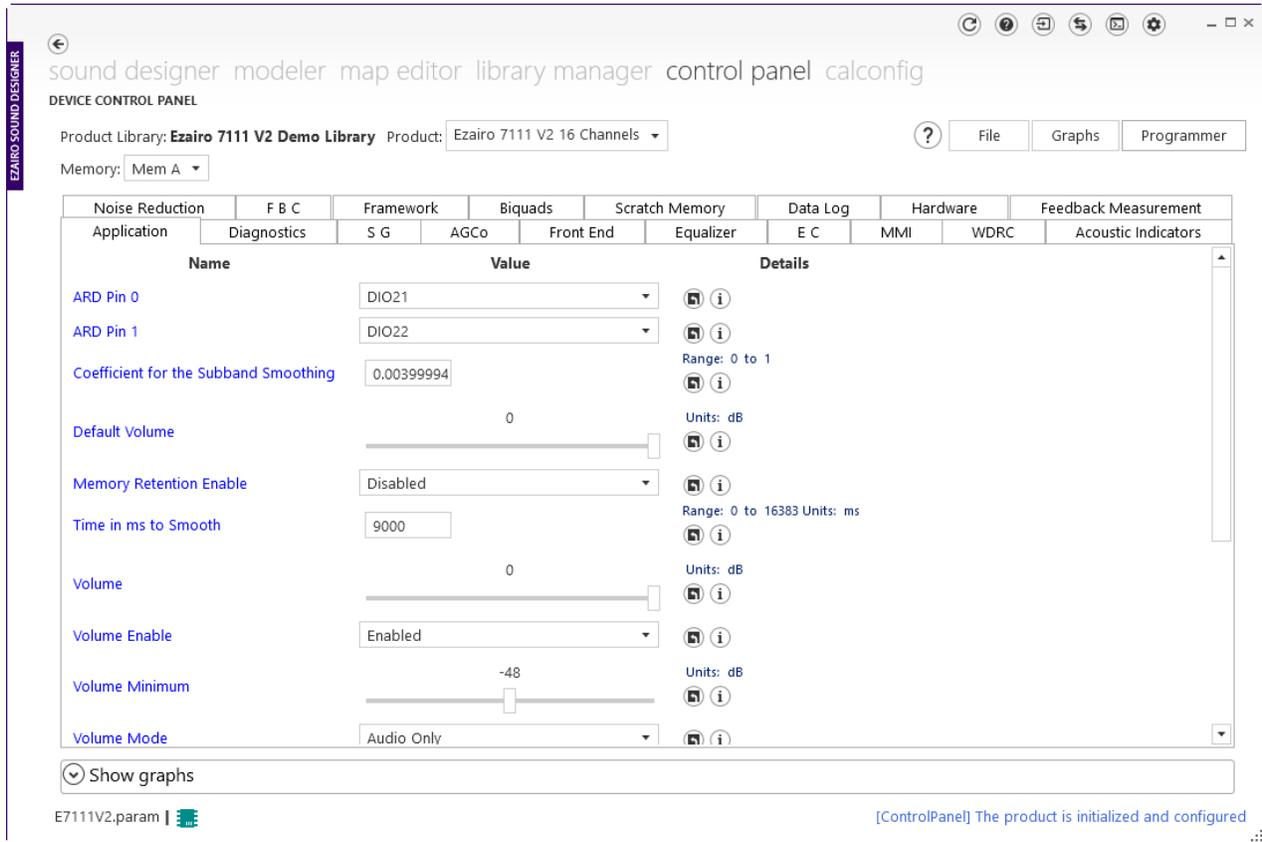

Figure 11. Successful Connection
- Once the connection succeeds, the connection status symbol appears to the right of the file name, as shown below in the figure "Successful Connection" (Figure 11). You can hover over this symbol to view the programmer name and the firmware ID of the device. It is now possible to configure the device parameters.